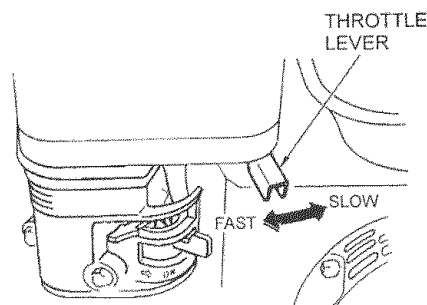

Figure 10- Throttle Lever
3. Move the throttle lever away from the SLOW position, about 1/3 of the way toward the FAST position (see figure 10). Some engine applications use a remotely-mounted rather than the throttle shown here.